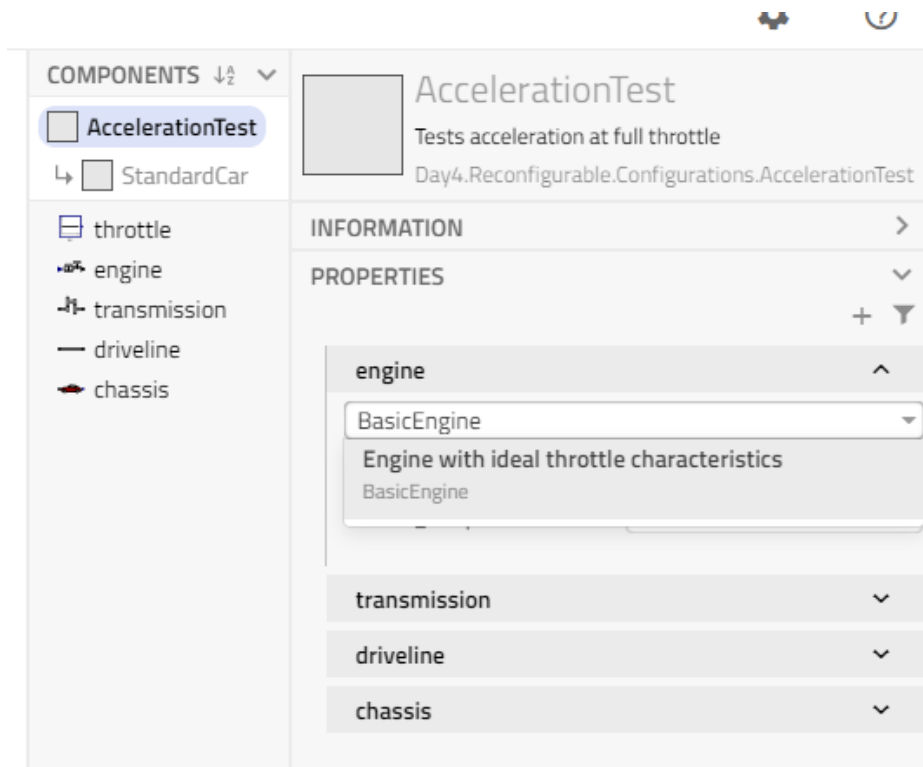

Figure 11 Changing class
3. Open the Properties section, and use the dropdown menu on the engine-model and select BasicEngine. It should be like Figure 11.